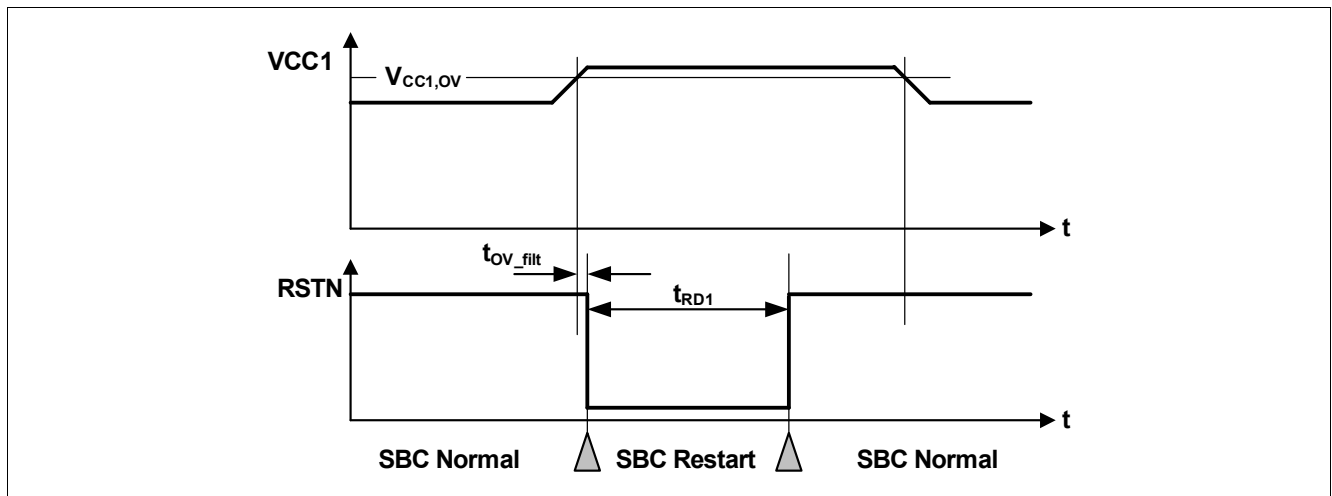

Figure 38 VCC1 Over Voltage Timing Diagram
- If the bit **VCC1_OV_RST** is set and **CFG0_STATE** = '1', then SBC Restart Mode is entered. The FO output is activated. After the reset delay time (t_{RD1}), the SBC Restart Mode is left and SBC Normal Mode is resumed even if the VCC1 over voltage event is still present (see also Figure 38). The **VCC1_OV_RST** bit is cleared automatically;